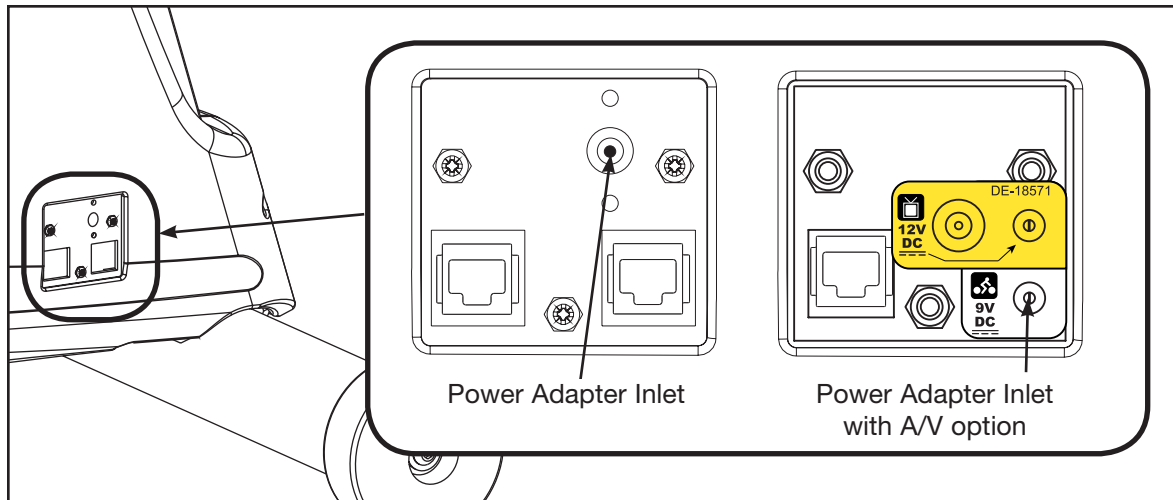

Figure 10
- A. Plug the power adapter into the inlet near the front of the unit. **NOTE:** Do not plug the power cord into an outlet at this time. See Figure 10.